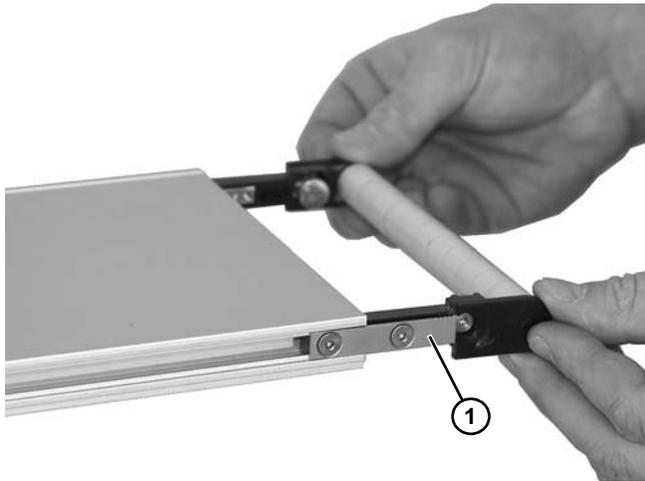

Figure 34
5. Remove the idler spindle assembly (Figure 34, item 1) from the conveyor frame.